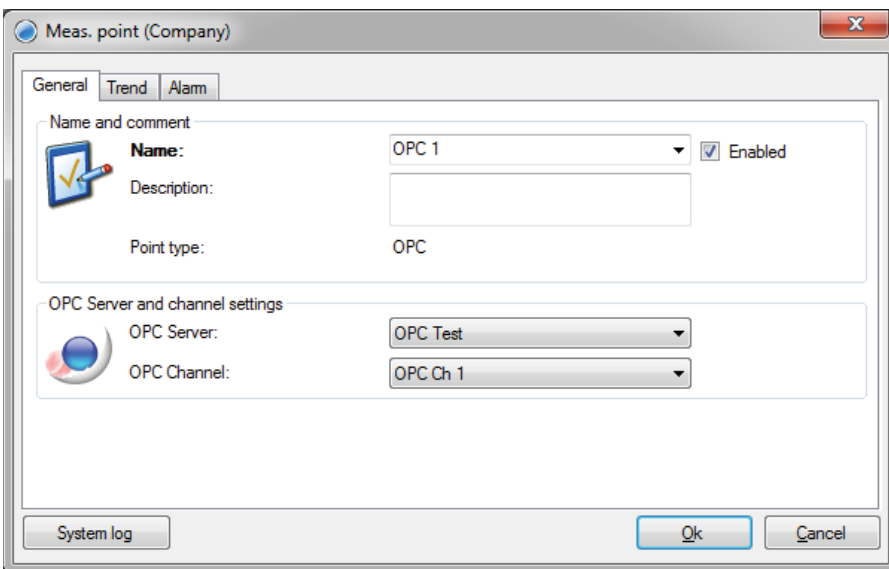

Fig. 9. Enter the name and description for the measurement point.
- From the **Meas. point** window (→ **fig. 9**), give a suitable **Name** and **Description** for the measurement point.